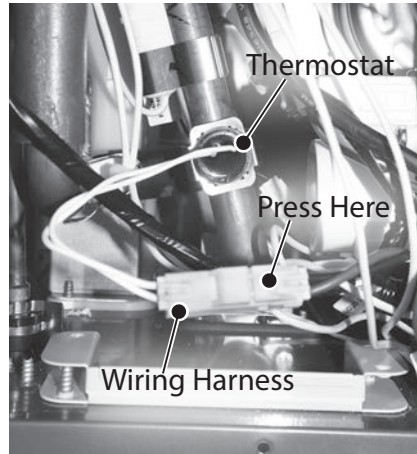

Figure 18 - Freeze protection thermostat location
- 4 Locate the freeze protection thermostat wiring harness as shown in Figure 18.
- 6 Disconnect the freeze protection thermostat wiring harness. See Figure 18.
**NOTICE:** Press in the location shown in Figure 18 to disconnect the wiring harness.
- 9 To install freeze protection thermostat to outlet water tube, gently push metal clamp onto tubing. The metal clamp will snap into place. Confirm thermostat sits flush against piping. See Figure 18.
- 10 Connect freeze protection thermostat to the wiring harness disconnected in **Step 6** See Figure 18.